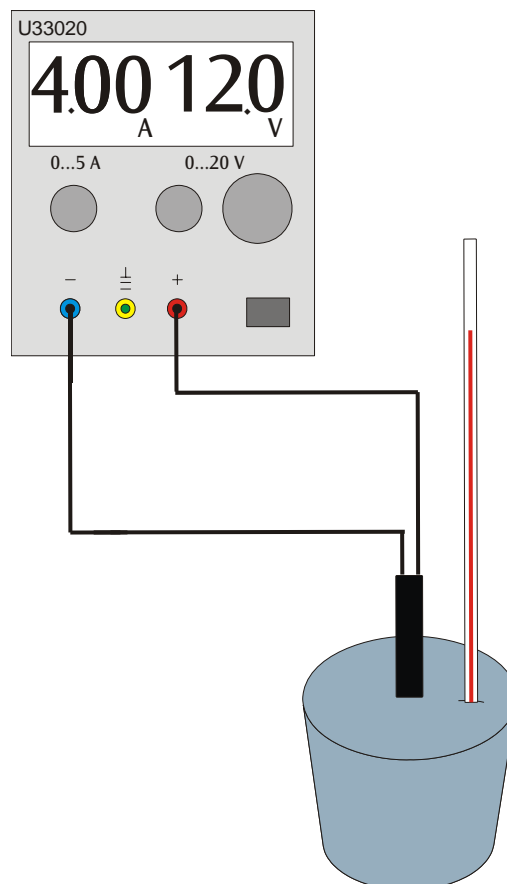

Fig. 1 Experimental set up
- Set up the circuitry according fig. 1.